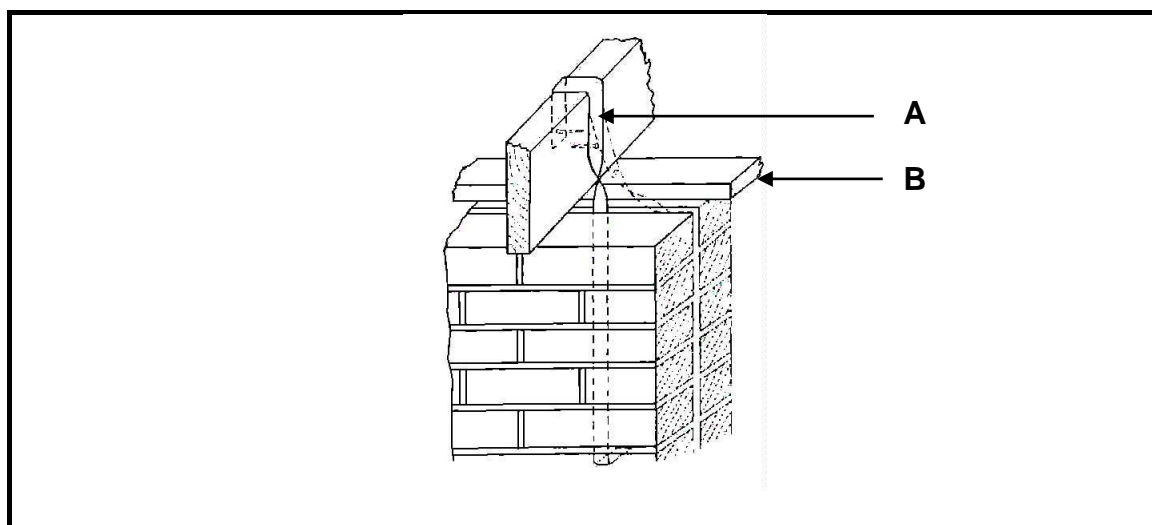

FIGURE 3.6
3.6 Answer the following questions with regard to the construction in FIGURE 3.6.
- 3.6.1 What is joined together in FIGURE 3.6? (1)